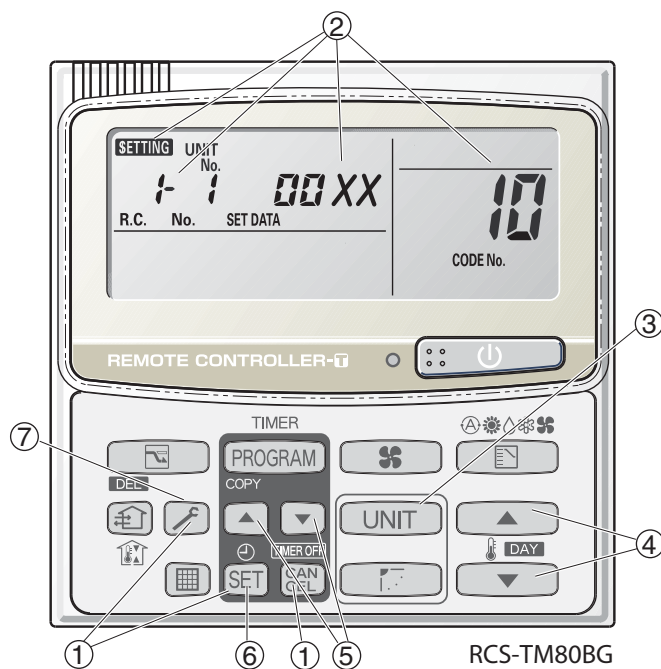

Fig. 2
- "SETTING,"** unit No. "**1-1**" (or "**ALL**" in the case of group control), item code "**10**," and settings data "**00XX**" are displayed blinking on the remote controller LCD display (Fig. 2).